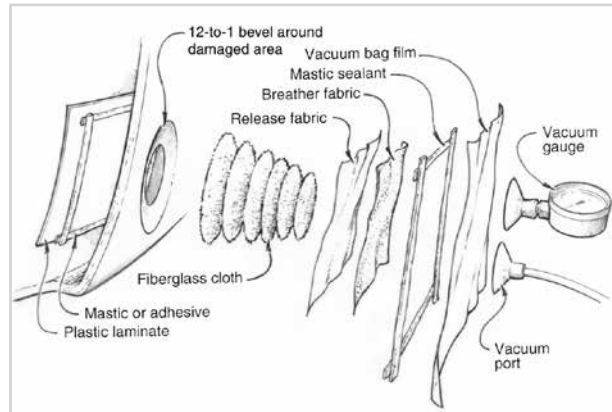

Figure 4-9 *Smooth the patch and the release fabric in place. Lay the vacuum bag material over the patch, seal the bag and attach vacuum lines.*
4. After smoothing the patch and release fabric in place, lay 882 Vacuum Bag Film or similar material over the patch (Figure 4-9). Remove the protective paper from the vacuum bag sealant and press the film into the sealant around the perimeter. The lay-up must be airtight. Vacuum leaks may create a resin-starved laminate or insufficient compaction.